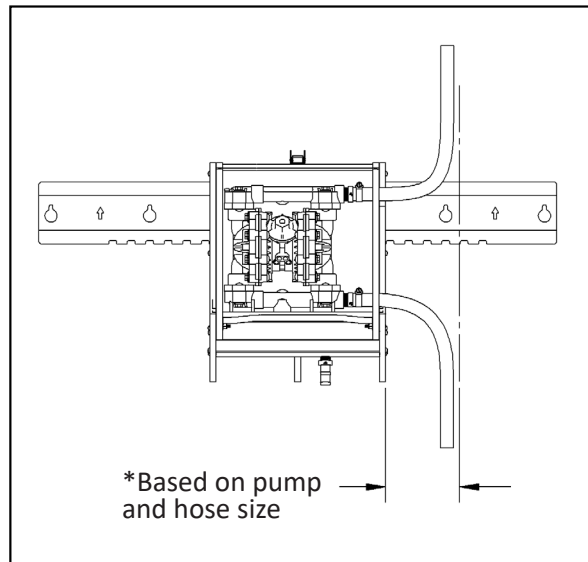

Fig. 5.3: Mounting clearance for rail mounted Pump Box. Shown with Graco Husky 515 pump.
5. Position the Pump Box on the rail with clearance for hose routing and additional Pump Boxes. [Figure 5.3]